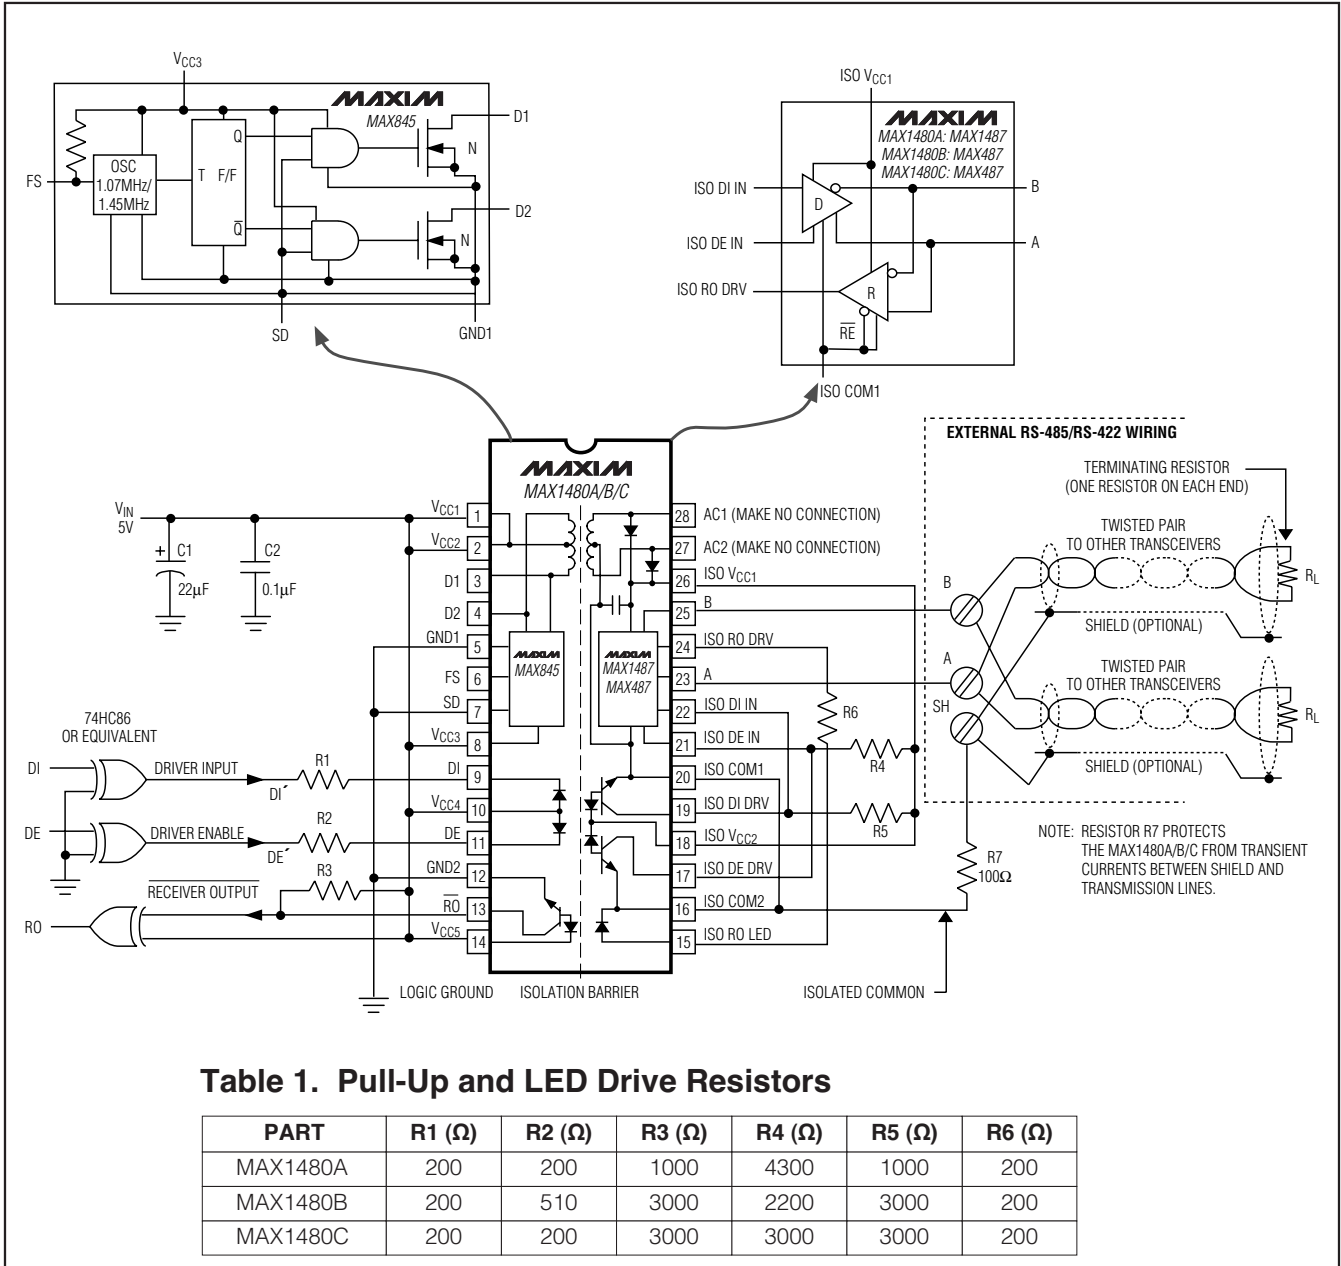
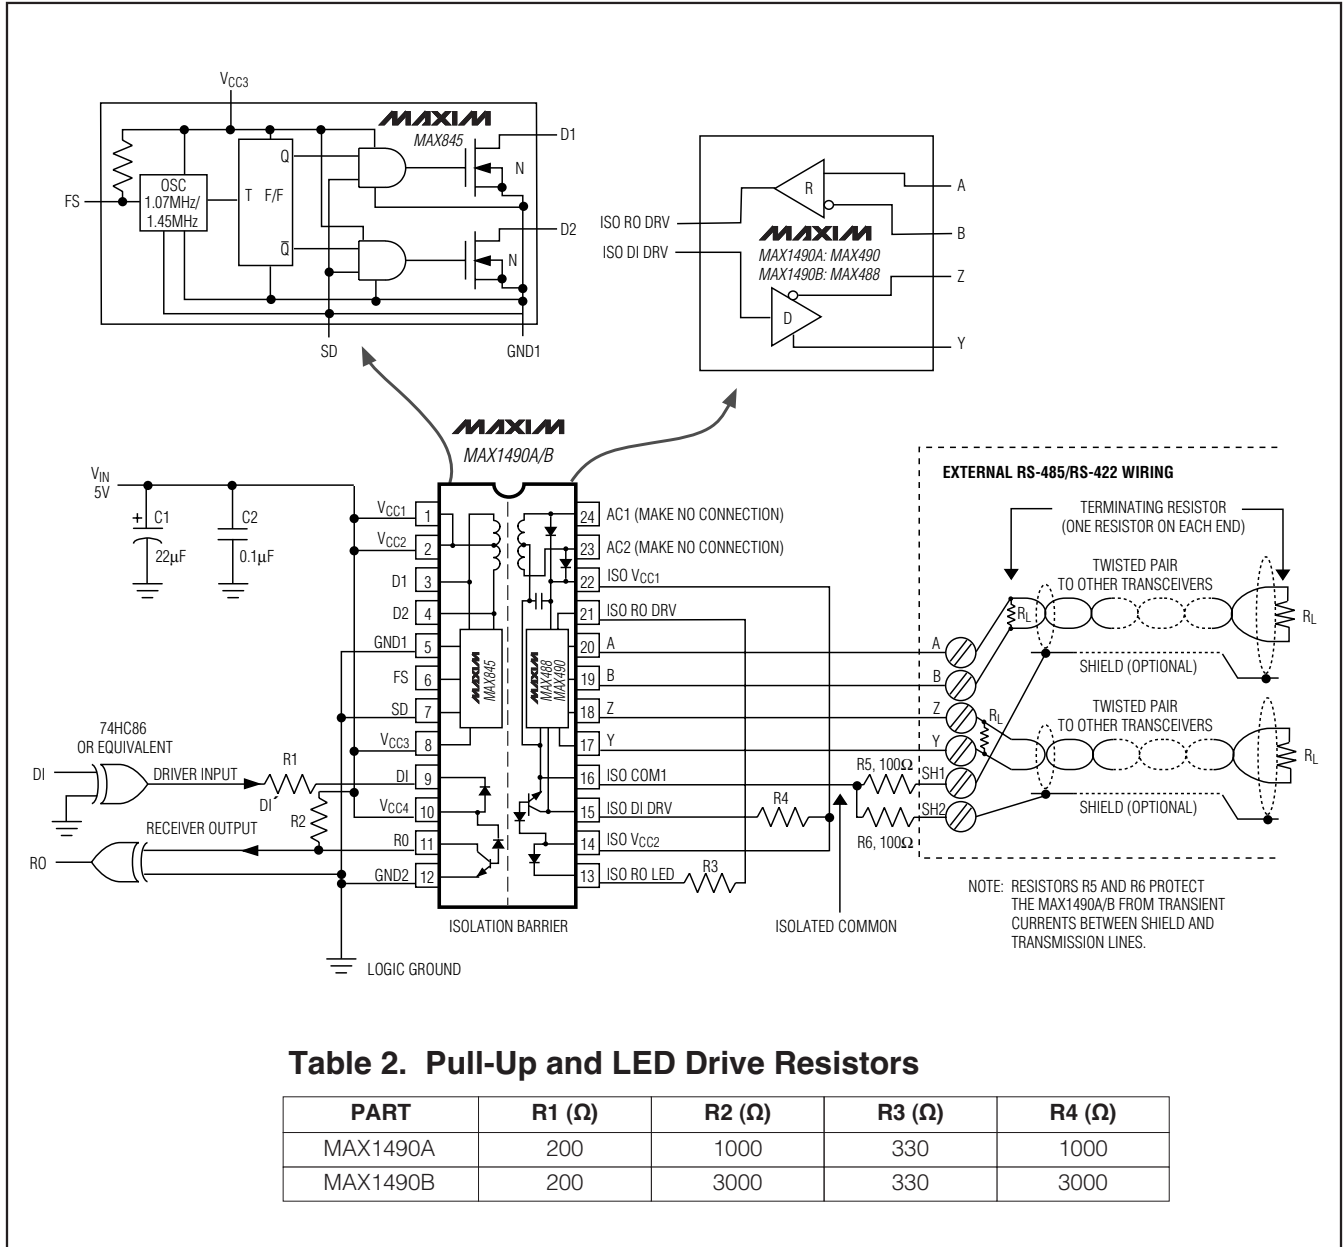

Figure 1. MAX1480A/MAX1480B/MAX1480C Detailed Block Diagram and Typical Application Circuit
Figure 2. MAX1490A/MAX1490B Detailed Block Diagram and Typical Application Circuit
Note 2: For DE' and DI' pin descriptions, see *Detailed Block Diagram and Typical Application Circuit* (Figure 1 for MAX1480A/MAX1480B/MAX1480C, Figure 2 for MAX1490A/MAX1490B).
| 9 | 9 | DI | Driver Input. With DE [̄] high (MAX1480A/B/C only), a low on DI [̄] forces output A low and output B high. Similarly, a high on DI [̄] forces output A high and output B low. Drives internal LED cathode through a resistor (Table 1 of Figure 1 for MAX1480A/B/C, Table 2 of Figure 2 for MAX1490A/B). |
| 11 | — | DE | Driver-Enable Input. The driver outputs, A and B, are enabled by bringing DE [̄] high. The driver outputs are high impedance when DE [̄] is low. If the driver outputs are enabled, the device functions as a line driver. While the driver outputs are high impedance, the device functions as a line receiver. Drives internal LED cathode through a resistor (Table 1 of Figure 1). |
| — | 11 | RO | Receiver Output. If A > B by 200mV, RO will be high; if A < B by 200mV, RO will be low. Open collector; must have pullup to V _{CC} (Table 2 of Figure 2). |
| 13 | — | \overline{RO} | Receiver Output. If A > B by 200mV, \overline{RO} will be low; if A < B by 200mV, \overline{RO} will be high. Open collector; must have pullup to V _{CC_} (Table 1 of Figure 1). |
| 15 | 13 | ISO RO LED | Isolated Receiver Output LED. Internal LED anode in MAX1480A/B/C and LED cathode in MAX1490A/B. Connect to ISO RO DRV through a resistor (Table 1 of Figure 1 for MAX1480A/B/C; Table 2 of Figure 2 for MAX1490A/B). |
| 17 | — | ISO DE DRV | Isolated Driver-Enable Drive. The driver outputs, A and B, are enabled by bringing DE [̄] high. The driver outputs are high impedance when DE [̄] is low. If the driver outputs are enabled, the device functions as a line driver. While the driver outputs are high impedance, the device functions as a line receiver. Open-collector output; must have pullup to ISO V _{CC_} and be connected to ISO DE IN for normal operation (Table 1 of Figure 1). |
| 19 | 15 | ISO DI DRV | Isolated Driver-Input Drive. With DE [̄] high (MAX1480A/B/C only), a low on DI [̄] forces output A low and output B high. Similarly, a high on DI [̄] forces output A high and output B low. Connect to ISO DI IN (on the MAX1480A/B/C only) for normal operation. Open-collector output; connect a pullup resistor to ISO V _{CC_} (Table 1 of Figure 1 for MAX1480A/B/C; Table 2 of Figure 2 for MAX1490A/B). |
| 20 | 16 | ISO COM1 | Isolated Common. For MAX1480A/B/C, connect to ISO COM2 (pin 16) (Figures 1 and 2). |
| 24 | 21 | ISO RO DRV | Isolated Receiver-Output Drive. Connect to ISO RO LED through a resistor (Table 1 of Figure 1 for MAX1480A/B/C, Table 2 of Figure 2 for MAX1490A/B). |
Note: For DE⁺ and DI⁺ pin descriptions, see *Detailed Block Diagram and Typical Application Circuit* (Figure 1 for MAX1480A/B/C, Figure 2 for MAX1490A/B).
The MAX1480A/MAX1480B/MAX1480C/MAX1490A/MAX1490B are complete, electrically isolated, RS-485/RS-422 data-communications interface solutions. Transceivers, optocouplers, a power driver, and a transformer in one standard 28-pin DIP package (24-pin for the MAX1490A/B) provide a complete interface. Signals and power are internally transported across the isolation barrier (Figures 1, 2). Power is transferred from the logic side (nonisolated side) to the isolated side of the barrier through a center-tapped transformer. Signals cross the barrier through high-speed optocouplers. A single +5V supply on the logic side powers both sides of the interface. The MAX1480A/B/C offer half-duplex communications while the MAX1490A/B feature full-duplex communication. The functional input/output relationships are shown in Tables 3–6.
* For DE' and DI' pin descriptions, see Detailed Block Diagram and Typical Application Circuit (Figure 1 for MAX1480A/B/C, Figure 2 for MAX1490A/B).